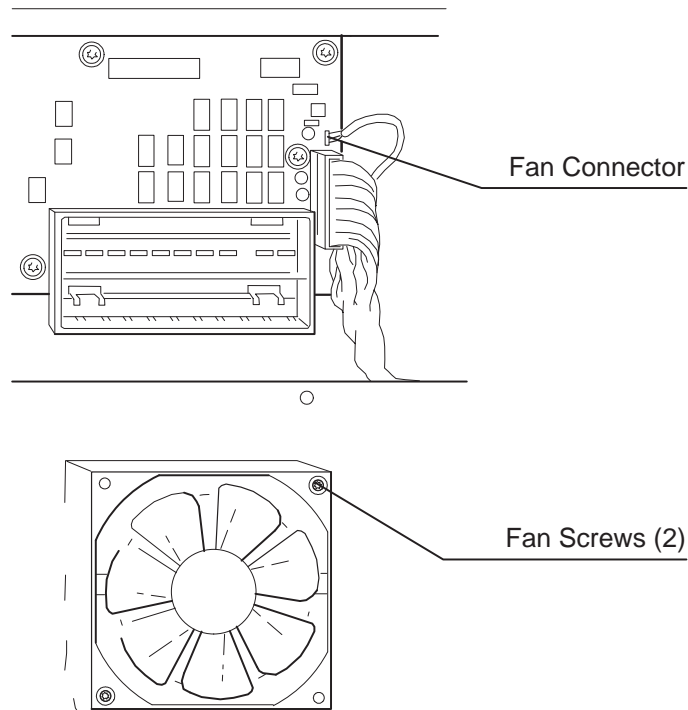

Figure 6-8.
To remove the fan, refer to Figure 6-8 and perform the following procedure:
4. Using a TORX T-10 screwdriver, remove the two screws that secure the fan to the electronics enclosure assembly. See Figure 6-8.